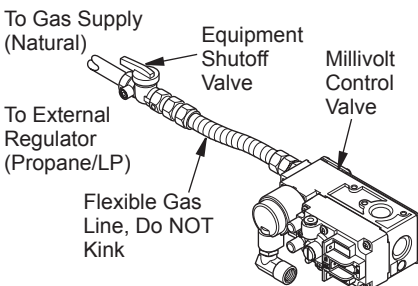

**Figure 33 - Removing/Installing Burner Base**
4. Remove 3 spacers from firebox bottom (see Figure 33).
6. Remove 9 screws from front and sides of firebox burner base. Lift entire base from unit by pulling forward to disengage from rear flange and then lifting up (see Figure 33).